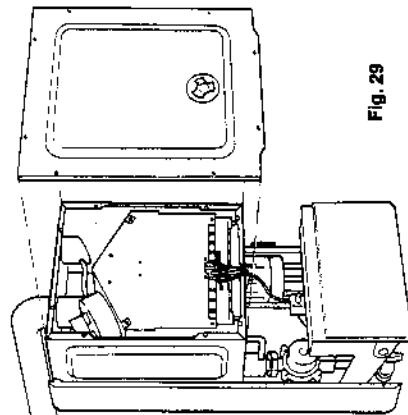

Fig. 29
6.15.5 Slide the casing downwards to fully engage the hooks and to align the bottom fixing holes. Replace the four case retaining screws. (fig. 29).
Refer to fig 29
Remove roomsealed front cover plate by releasing eight screws (fig. 29) and easing cover off. The screws are not captive. Inspect gasket for damage. If damaged, replace.